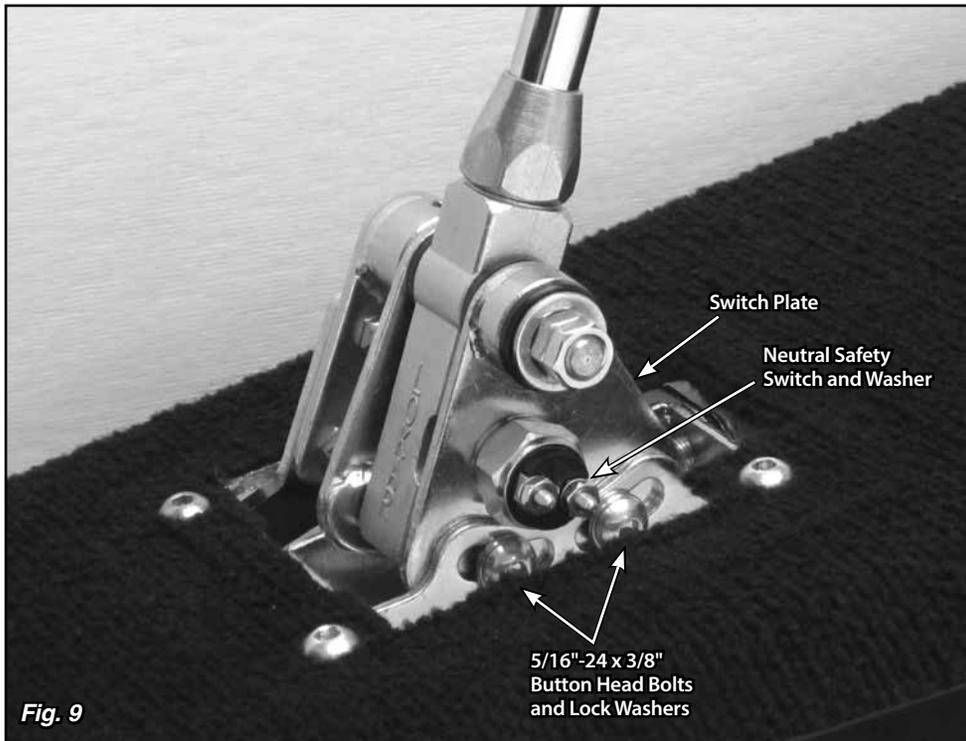

Fig. 9
Step 14: Remove the neutral safety switch and washer (**Fig. 9**) from the passenger side of the Shifter using a 7/8" wrench or socket.
Step 15: Loosen, but do not remove, the two 5/16"-24 x 3/8" button head bolts that attach the passenger side of the floor mount mounting bracket to the switch plate (the bolts are in curved, slotted holes). **Fig. 9**